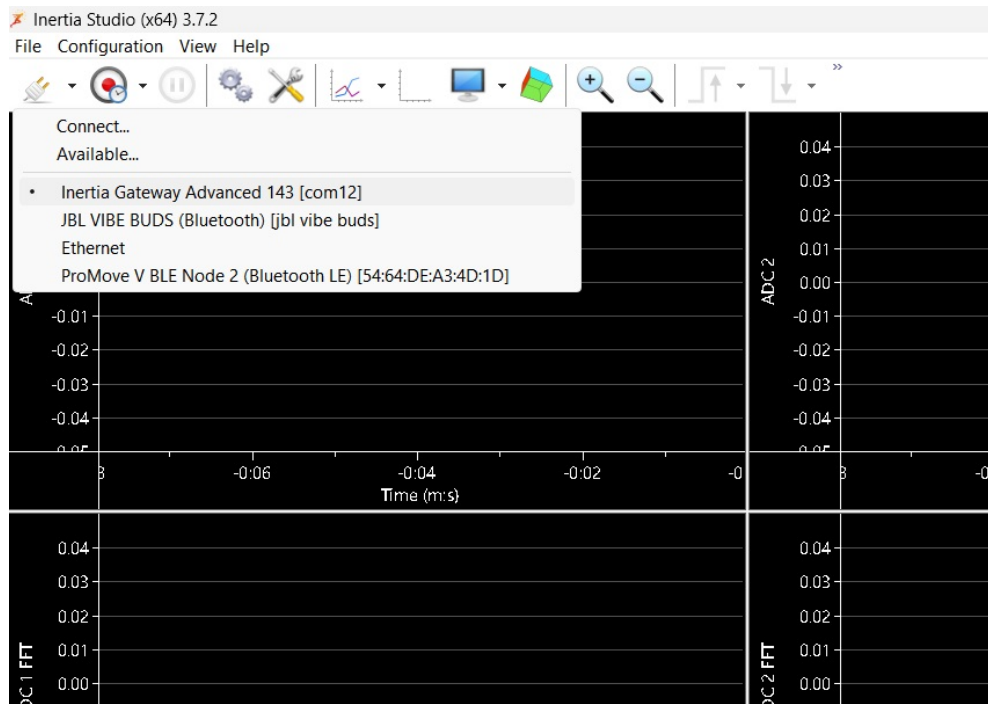

Figure 64: Connect the gateway in Inertia Studio
3. Connect the gateway in Inertia Studio (Figure 64) by pressing on the arrow next to the first *Connect* pictogram button in the toolbar, which opens the drop-down menu with a list with the names of the available Inertia devices. Select the **Inertia Gateway** device and press on the *Connect* pictogram (for details, see Section 3.2.1).